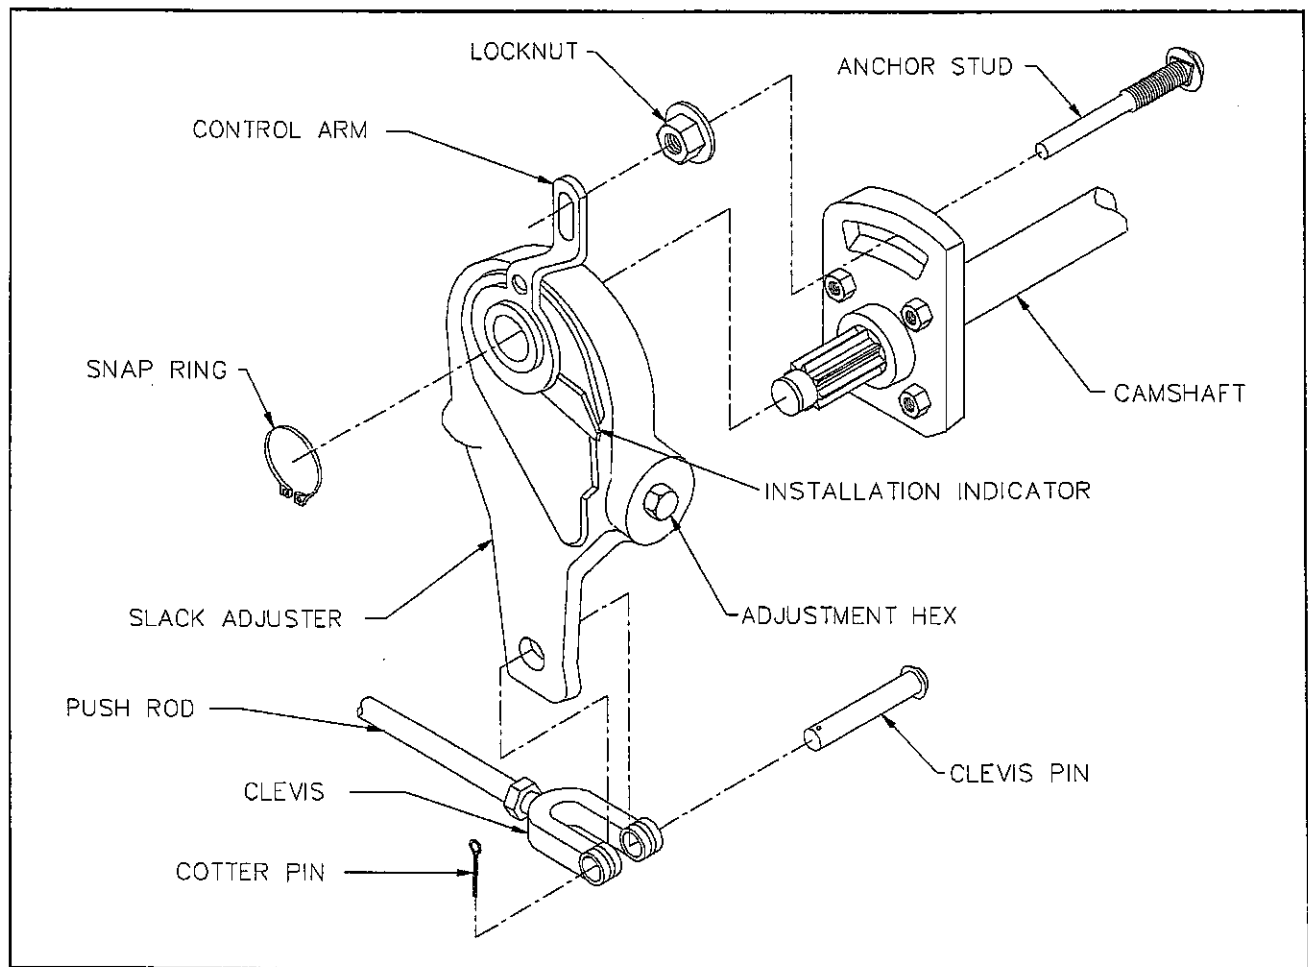

Figure 4-11 Slack Adjuster (Haldex)
4. Disconnect the slack adjuster from the connecting rod by removing the clevis pin (See Figure 4-11).
3. Remount the brake unit on the axle brackets and reconnect the air service hoses and the slack adjuster connecting rod (See Figure 4-11).
a. Operational Check (see Figure 4-11)
c. Replacing Haldex Slack Adjuster (See Figure 4-11)